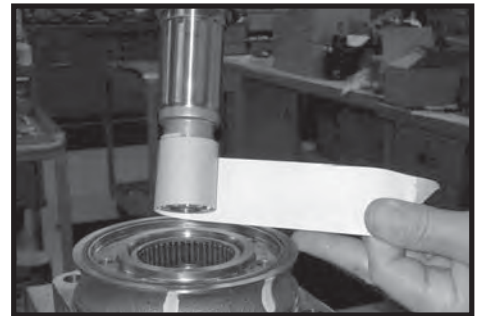

Figure 37
**Apply masking tape to shaft** 7. Apply masking tape around splines or keyway on shaft (12) to prevent damage to seal. SEE FIGURE 37.